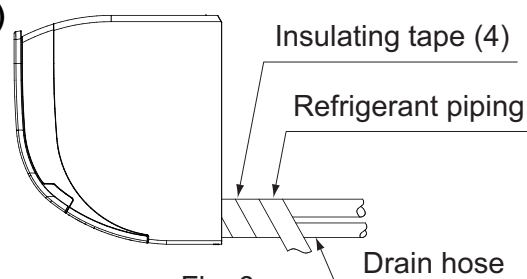
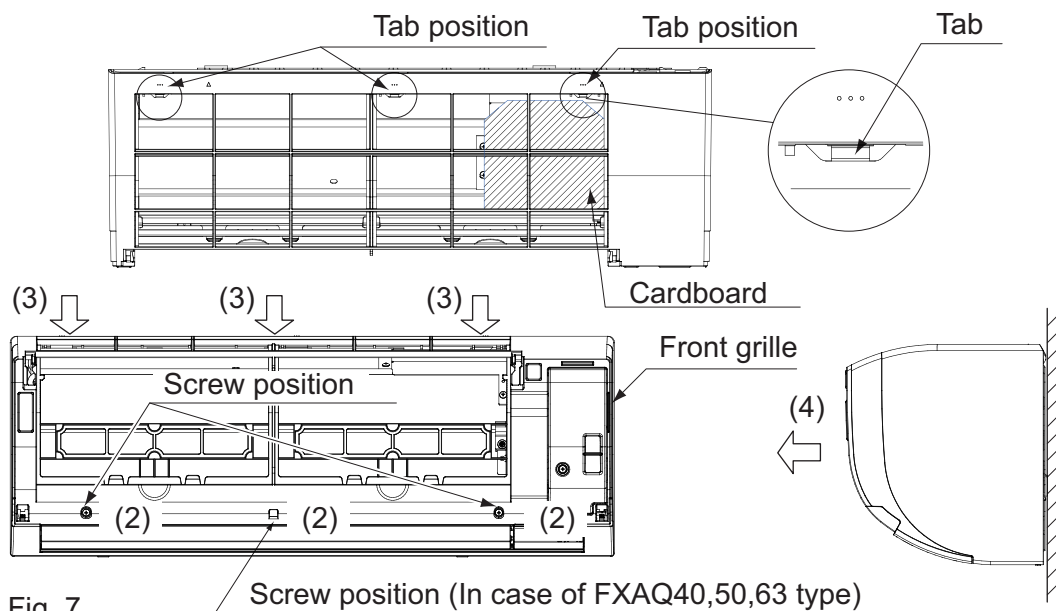

Fig. 6
Fig. 7
(5) Point the pipe in the direction it will be passed out.
**For right, bottom-right, and back-right piping (Refer to Fig. 6)**
- Wrap the drain hose and the refrigerant piping together with the insulating tape (4) so that the drain hose is below the refrigerant piping.
- Remove the front grille. (Refer to Fig. 7)